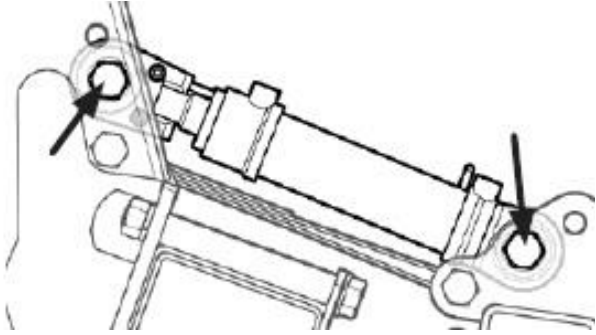

Figure 17
- Position Two: Bottom hole for the front of the cylinder and lower hole for the rear of the cylinder. This can be used in some crop conditions if the guards need to tilt forward or keep the guard's level to the ground. Figure 17